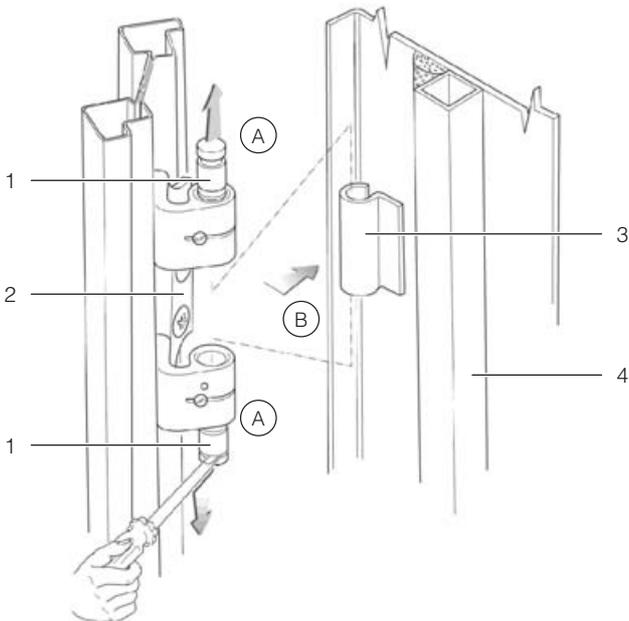

Fig. 23: Removing a door hinge
- Loosen the hinge bolts from the four door hinges by raising them with an appropriate tool (e.g. screwdriver). Pull the bolts out of the hinge pin holding fixture as far as they will go (see fig. 23, step A). Begin with the lowest door hinge.
- Remove the server enclosure door (fig. 23, step B).